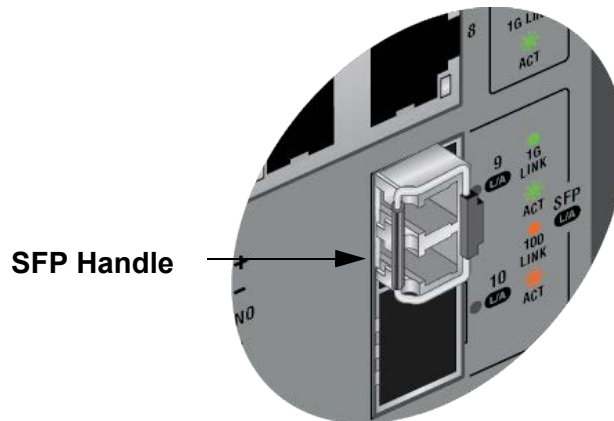

Figure 34. Verifying the Position of the Transceiver Handle
5. Verify the handle on the transceiver is turned to the right. Refer to Figure 34.